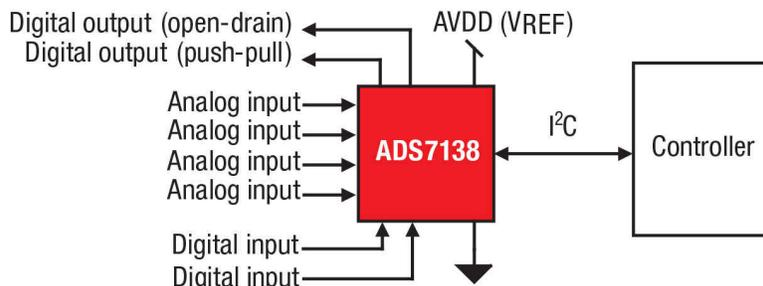

Figure 8. ADS7138 as Adc and Gpio
- General purpose input/output (GPIO)** In many systems, the detection of an alarm event requires immediate control action (like switching off a heating element or turning on a hazard indicator). In the ADS7138, some of the analog input channels can monitor the sensors, while the unused analog input channels can serve as GPIO pins. As shown in Figure 8, the monitored sensor can control the status of GPIO pins locally, or a central processor using the I2C interface can control the status remotely.